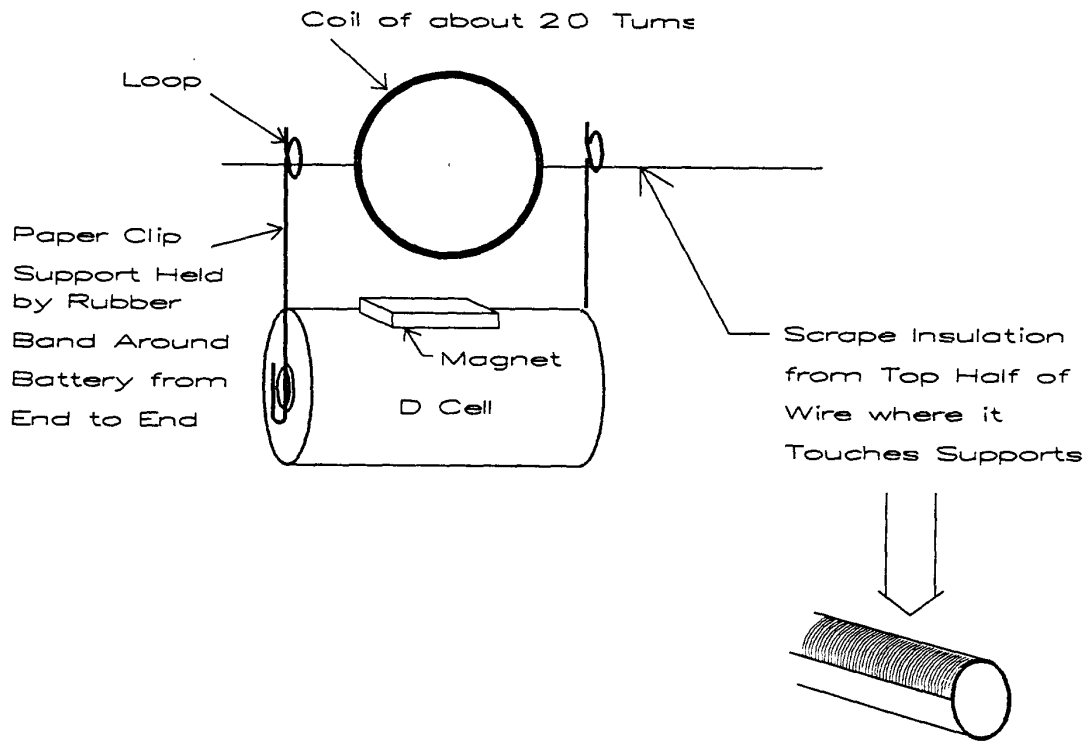

Figure 1
1. Wind a coil of wire of about 20 turns around a “former” (something to provide a definite form to coil, such as a short piece of plastic pipe or the D-cell battery itself), and leave the two ends straight and going in opposite directions out of the middle of the coil (see the diagram in Figure 1). It is very important that these two ends, which will serve as the axle of the coil and its electrical contact, be straight, stable and lined up with the center of the coil. You can either secure them by means of tape or by wrapping them two or three times about the wire bundle. Scrape the insulation from the top half of the axle wires where they will rest on the paper clip loop supports. Make sure to remove only half the insulation and the same half on both ends.